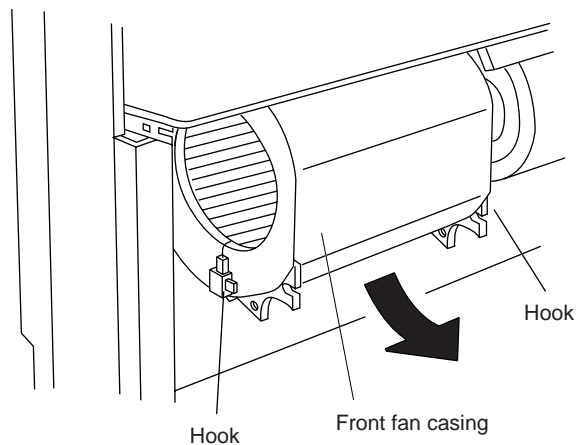

Fig.12
- (1) Unlatch the 2 hooks on each side to take off the front fan casing. (Fig. 12)